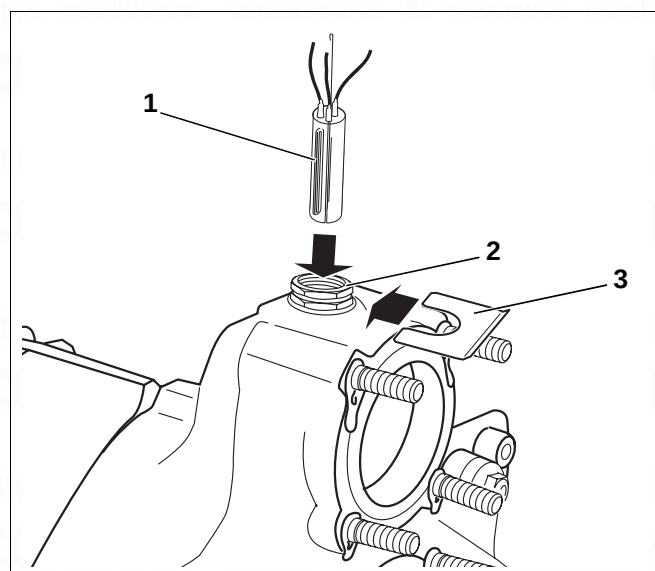

Fig. 45 Installation – sensor set
The temperature sensor set connected to the control unit (consisting of three temperature sensors and one sensor blind piece Fig. 45, [1]) is installed in the sensor well R $\frac{3}{4}$ ".
- Route capillary pipe sensor to the measuring port of the boiler and then guide the sensor into the sensor well (Fig. 45, [2]) and secure with the retaining clip (Fig. 45, [3]).